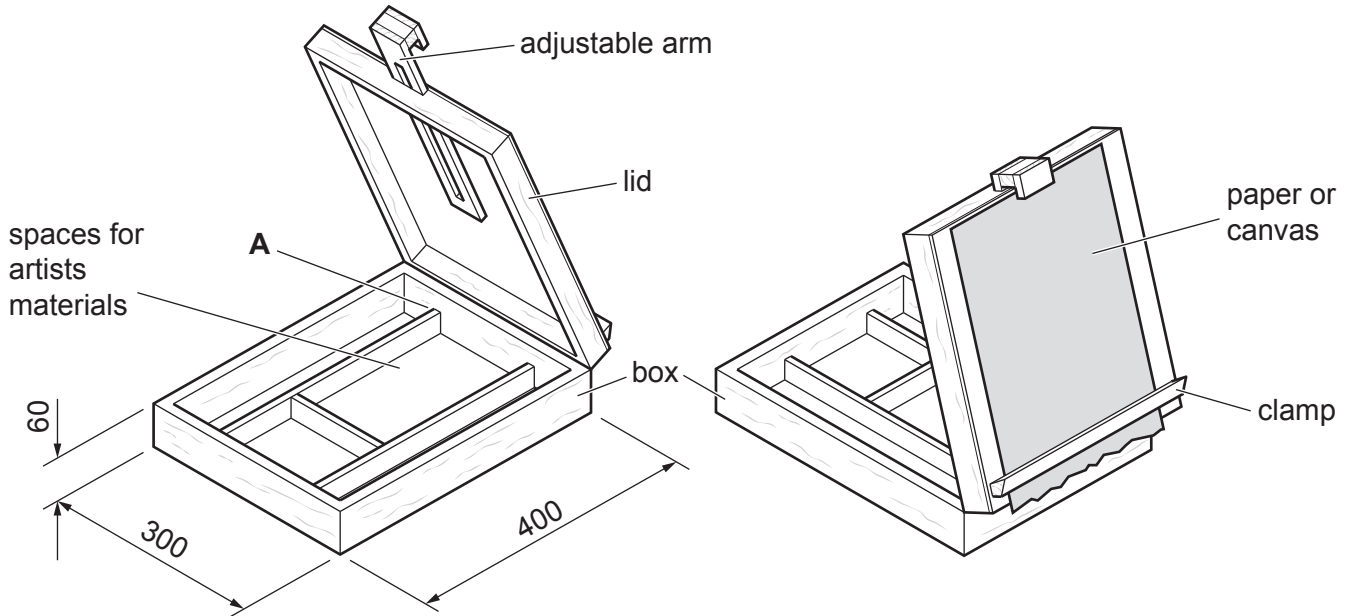
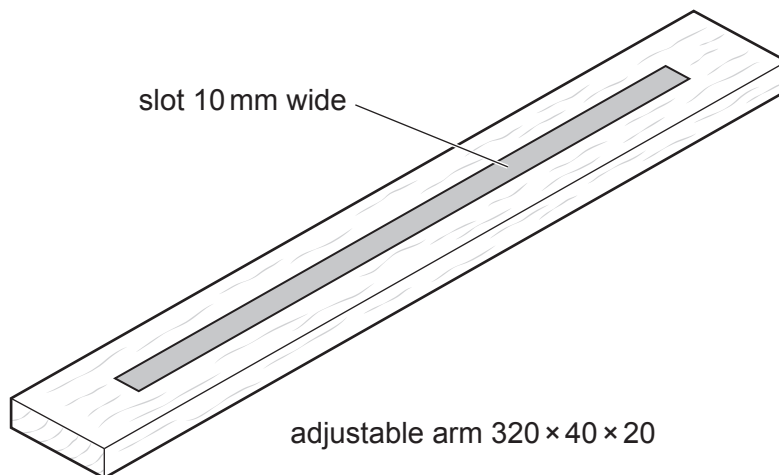

Fig. 11.1
**Fig. 11.4**
- 11 Fig. 11.1 shows views of an incomplete design for a desktop box easel. The outer frames of the box and lid are made of 15 mm thick hardwood. The top of the lid and the base of the box are made from 6 mm thick veneered plywood.
Fig. 11.4 shows part of the sides of the compartment shown at position **A** in Fig. 11.1.
Complete Fig. 11.4 to show a suitable construction that could be used to join the sides at **A**.